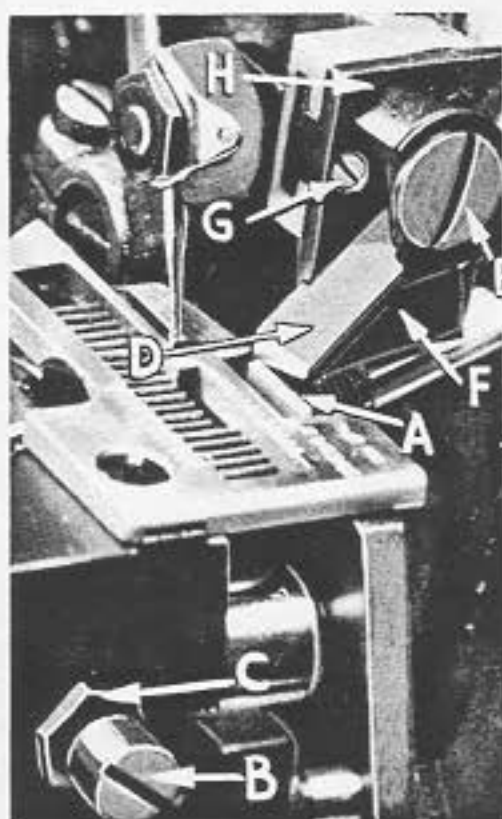

Fig. 12
Replace lower knife holder assembly. Lower knife (A, Fig. 12) should be set with cutting edge flush with throat plate surface. Adjustments are made with hexagonal head screw which holds lower knife. Lower knife is spring pressed against upper knife, so no lateral adjustment is necessary when width of trim is changed.
Replace upper knife assembly. Clamp upper knife (D, Fig. 12) in position, setting screw (E) to hold clamp (F) in its most clockwise position against upper knife. At bottom of its stroke, front cutting edge of upper knife should extend not less than $\frac{1}{64}$ inch below cutting edge of lower knife.